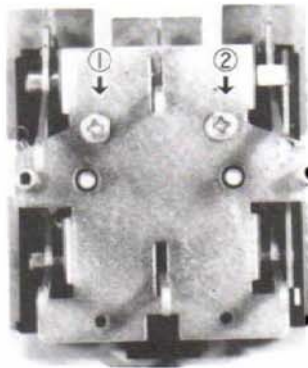

Fig. 12
- 4) For further disassembly of the push lever part, it can be disassembled by taking out the screws (tapping 3 x 10) shown in Fig. 12 after finishing the procedures given in Item 3).